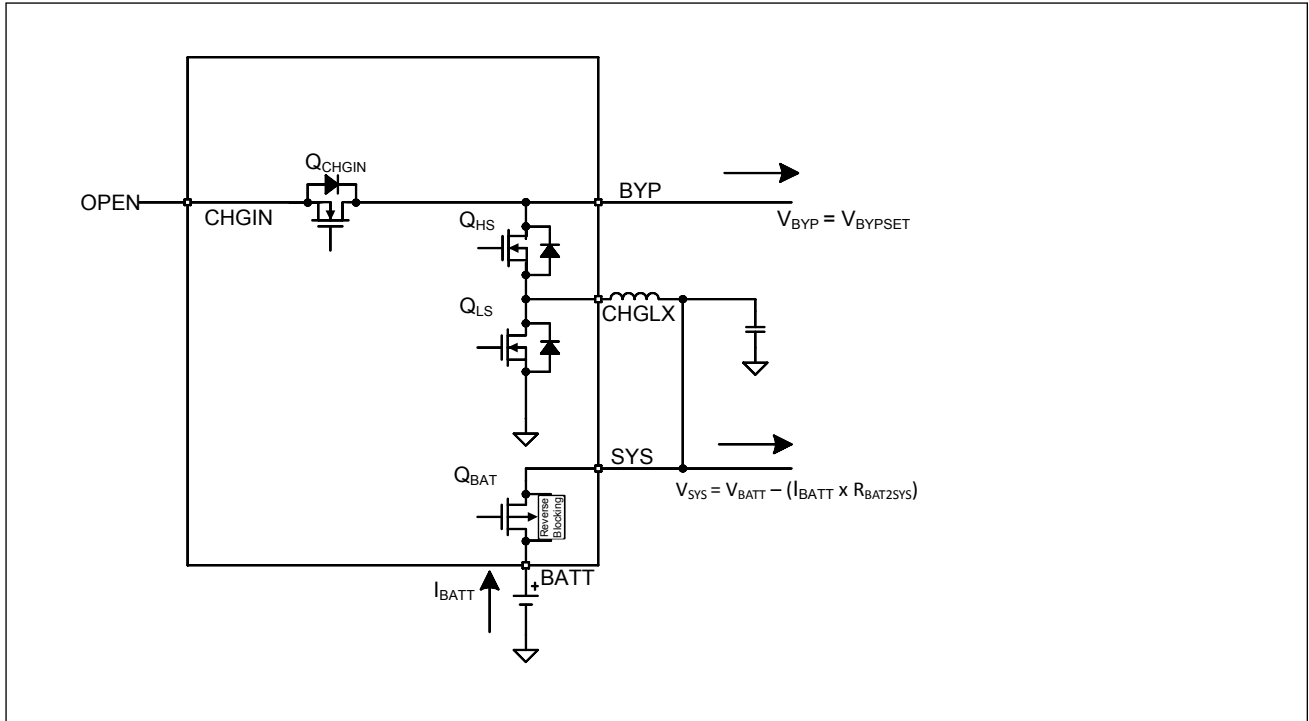

Figure 6. Battery-Boost
3. BATTERY-BOOST, MODE = 0x08: Adapter input is invalid outside the input voltage operating range ( $Q_{CHGIN} = \text{off}$ ). Battery is connected to power the SYS load ( $Q_{BAT} = \text{on}$ ) and charger is operating in boost mode (boost = on), see Figure 6.